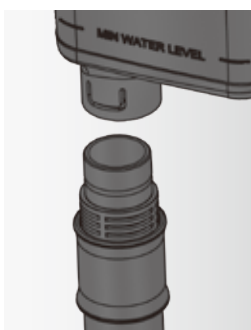

Fig. 6
- 2 Remove Strainer and Extension Tube** by pulling down from Impeller Cover as shown (Fig. 6).